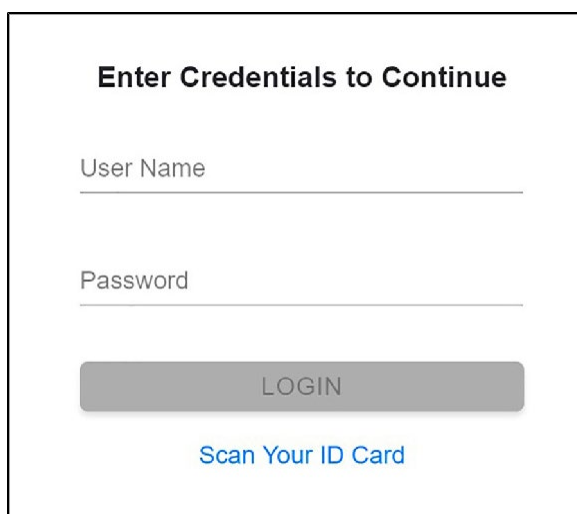

Figure 19. Enter Credentials to Continue Screen
8. Depending on your configuration, the Enter Credentials to Continue screen may appear (see Figure 19). If enabled, you may log in by scanning your institutional ID. Otherwise, manually enter your User Name and Password and touch **LOGIN** to continue.